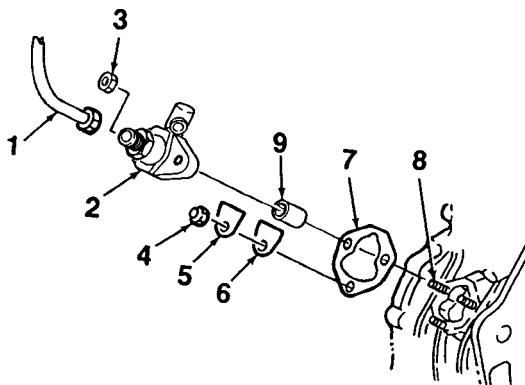

Figure 4-14. Timing Adjustment
8. Injection timing can be adjusted by adding or removing injection pump shims (7, Figure 4-14). If fuel is injected before a 16 degree rotation, add shims. If fuel is not injected until after a 18 degree rotation, subtract shims. Each 0.1 mm (0.0039 inch) shim changes timing by 1 degree.
9. Add or subtract shims (7) as required and retest to ensure proper timing. Install fuel pipe (1) onto injection pump (2). Install flywheel housing (Para. 3-13).